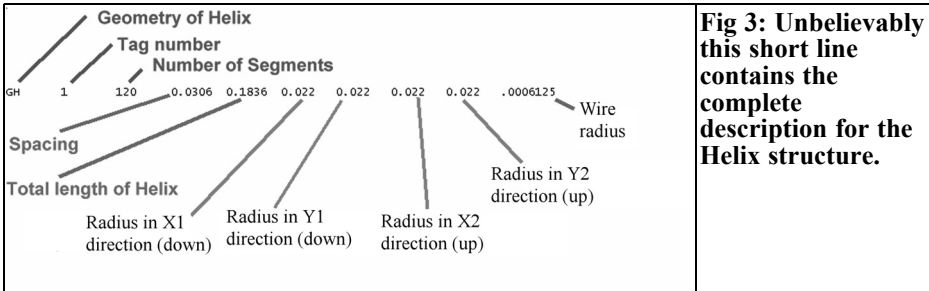

Fig 3: Unbelievably this short line contains the complete description for the Helix structure.
- “GH” (Geometry of Helix) specifies the form of the Helix; the line required including the explanation is shown in Fig 3.